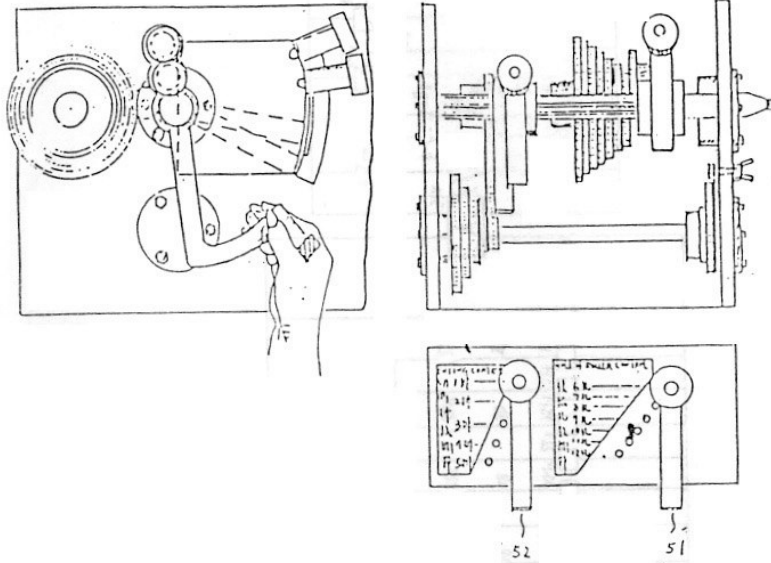

FIGURE 1
- a) The number of mold holes of sealing wheel should be adjusted properly to make the mold holes and feeding synchronously.(See figure 1)
- b) Assume there are 8 holes on sealing wheel, move the adjusting handle (item 51) of mold hole number down to position of 8 holes and tighten.
- a) Assume the cutting rows number is 5 rows. Move the adjusting handle (item 52) of cutting rows number down to position of 5 rows and the cutting unit will act when 5 rows pass.